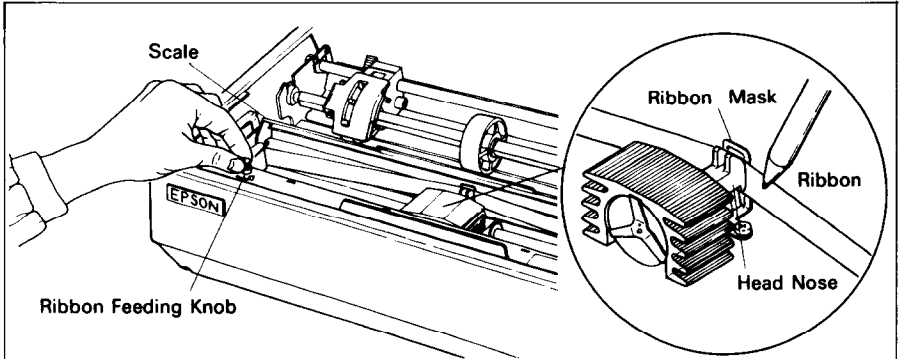

Fig. 9 Cartridge Ribbon Setting
STEP 4. Put the ribbon between the head nose and the ribbon mask. In this case, the ribbon can be set easily by hooking it to the edge of the head nose and turning the ribbon feeding knob of the cartridge case in the direction of the arrow (i.e., counterclockwise) while depressing the ribbon with a ball-point pen. Then, tension the ribbon by turning the ribbon feeding knob counterclockwise. (See Fig. 9.)